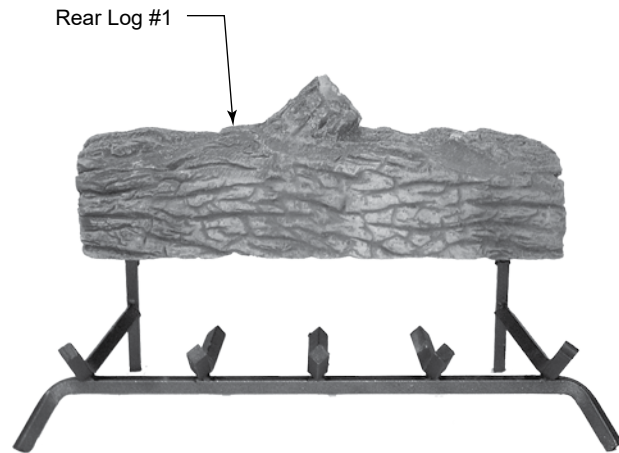

Figure 23 -
2. Center rear log #1 on grate bars and flush with rear of the grate. *Figure 23*